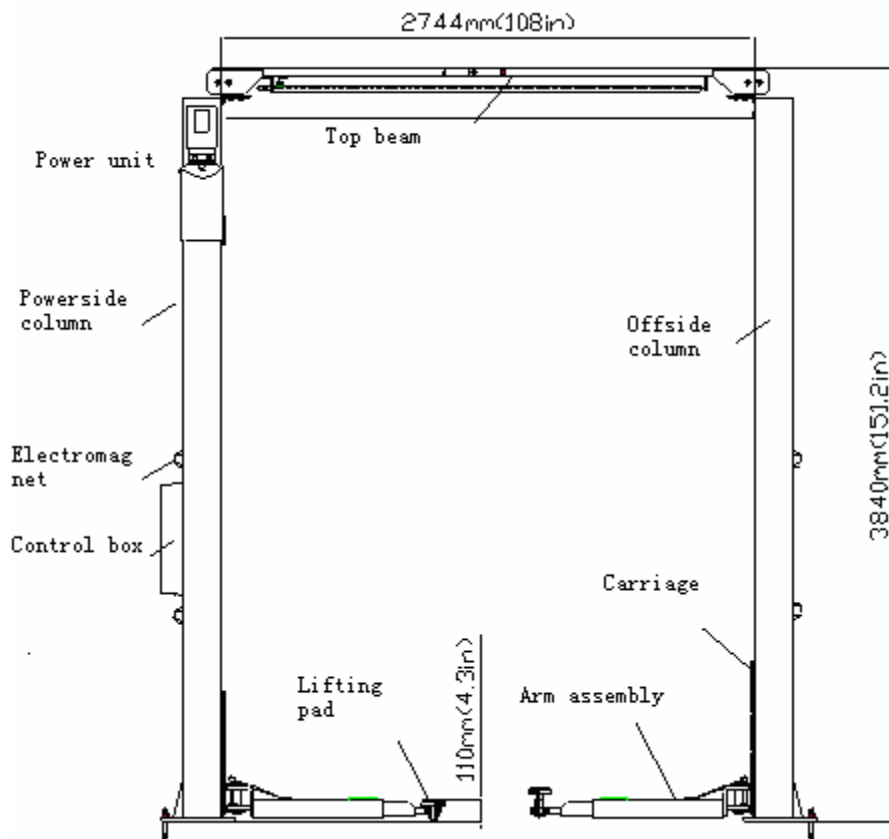

Fig.1d
TLT235SCA(U) clear-floor 2-post lift	3.5T Luxurious clear-floor 2-post lift (Fig1d、 Fig2d)